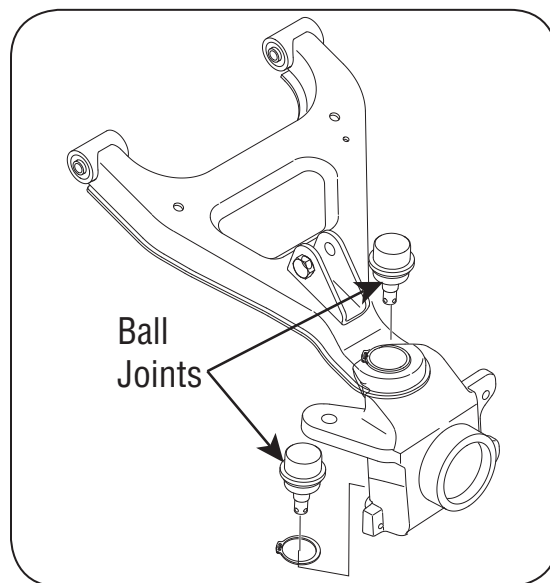

Figure 14
1. Inspect the upper and lower **front** A-arm ball joints on each side of the vehicle and the two tie rod ends for wear every 100 hours or once a year. See Figure 14. If excessive wear appears, have ball joints or tie rod ends replaced by your local Cub Cadet dealer.